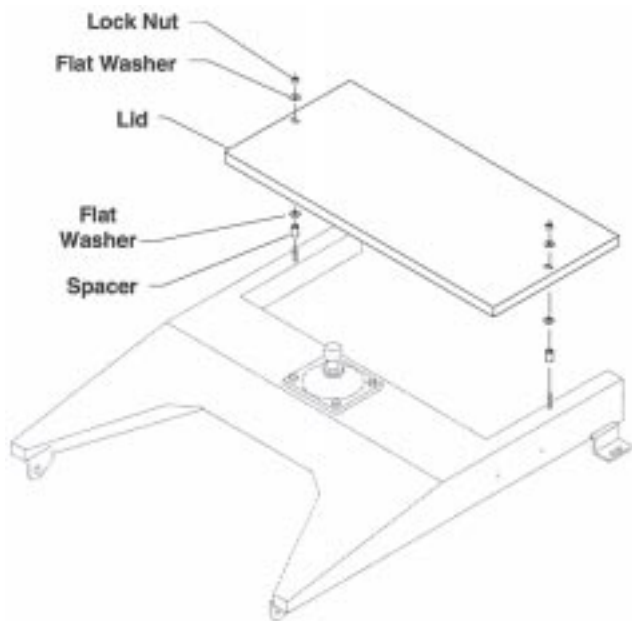

Figure 8
7. Install cover of 5th wheel hitch plate and secure with hardware shown in Fig. 8.